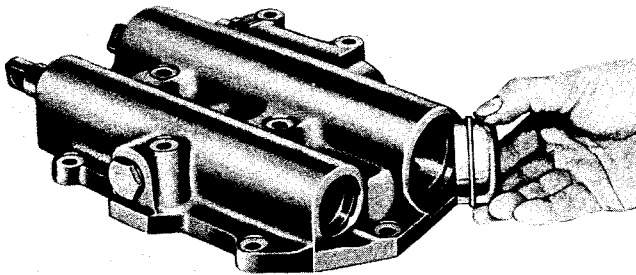

Fig XIV-6. Removing or installing plug from range selector valve body
(3) Remove the plug from the body (fig XIV-6).
(9) Install the plug in the body (fig XIV-6).